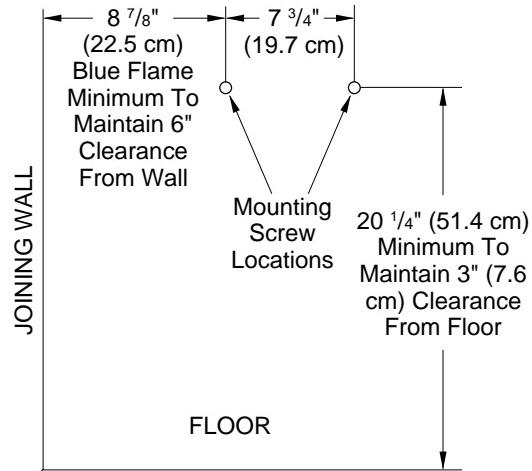

Figure 6 - Mounting Screw Locations
⚠ WARNING: Maintain minimum clearances shown in Figure 6. If you can, provide greater clearances from floor and joining wall.
2. Mark two mounting screw locations on wall (see Figure 6).